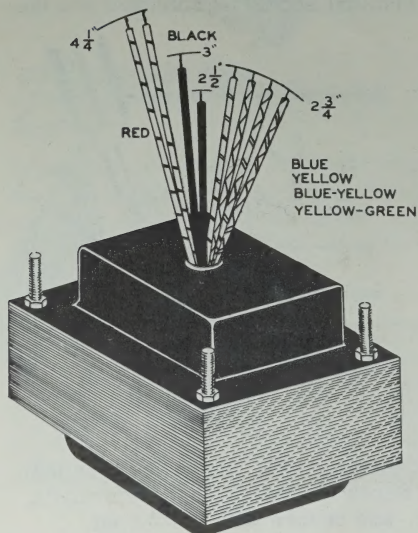

Figure 1A
- (X) Locate the power transformer (#54-88) and refer to Figure 1A. Measuring straight out from the transformer bottom shell, cut the two red leads to 4 1/4". Trim approximately 5/16" of the insulation off the ends.